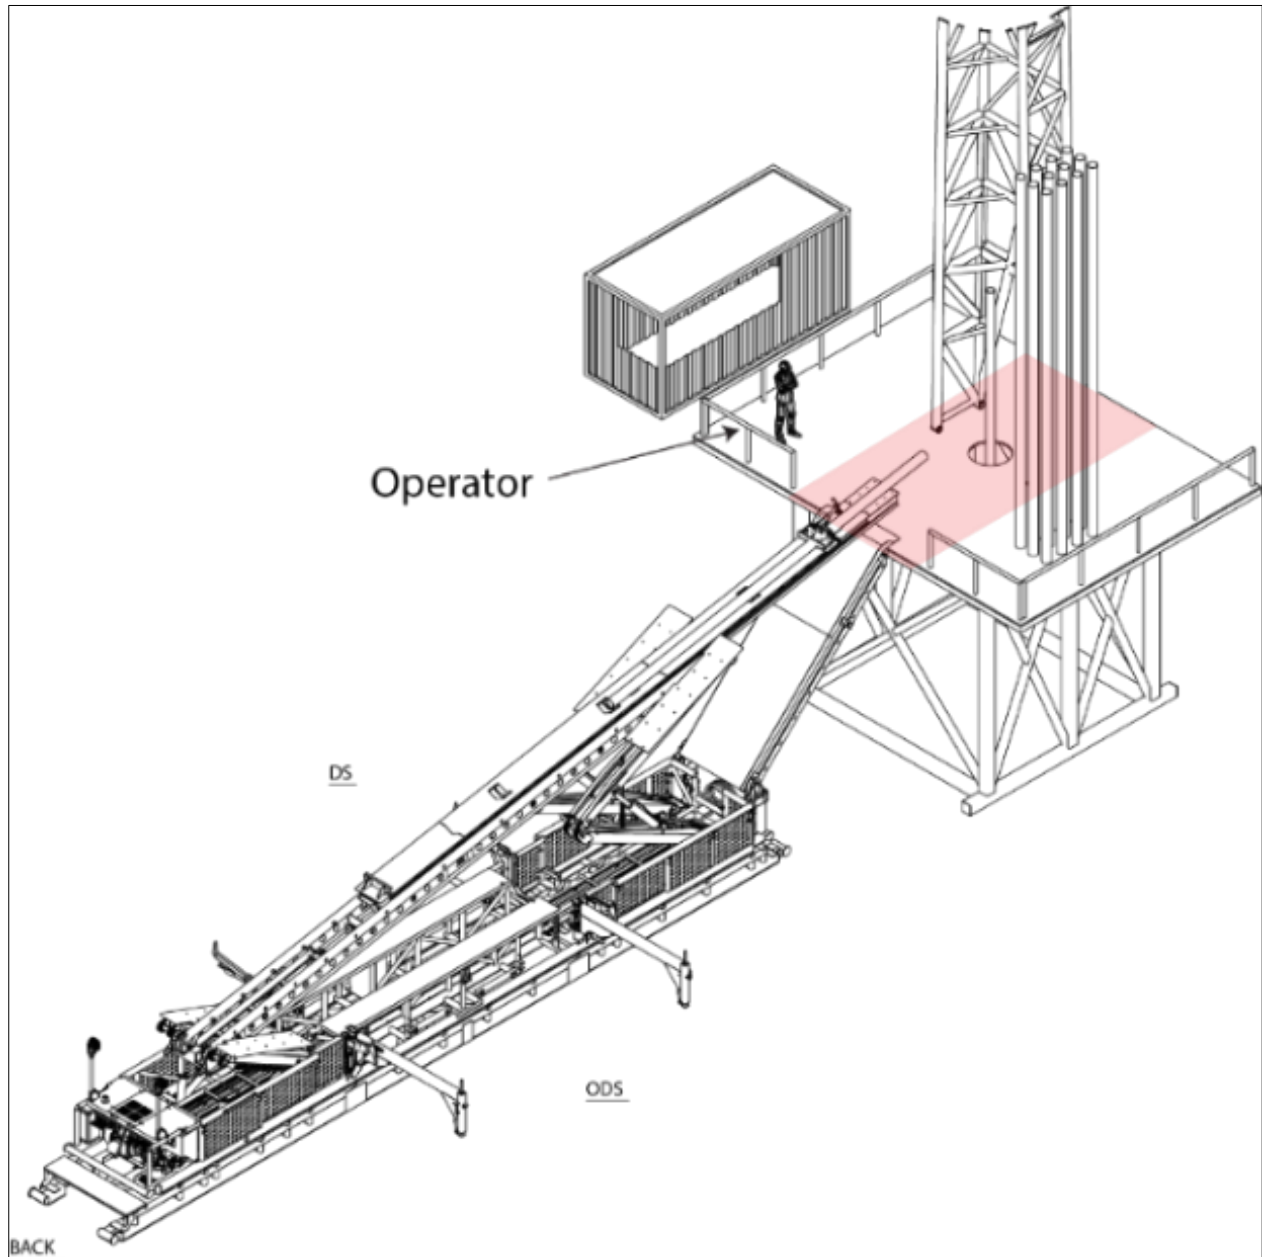

Figure 1: Red zone on the rig floor
After setting the programmable logic controller (PLC) to enable remote operation of the catwalk, the catwalk’s operation must only be controlled via the wireless remote or the wired remote with standard issue cable to allow operation from outside the red zone. Shown in Figures 1 and 2, the operator will use the wireless remote to operate the catwalk from a safe location.
During operation of the catwalk, certain areas on the rig floor and ground (red zones) must only be entered if certain operating conditions are met. The red zones are shown in Figures 1 and 2.
- On the rig floor, the operator and all personnel can ONLY be permitted in the red zone (shown in Figure 1) if the catwalk is powered down and not in operation.